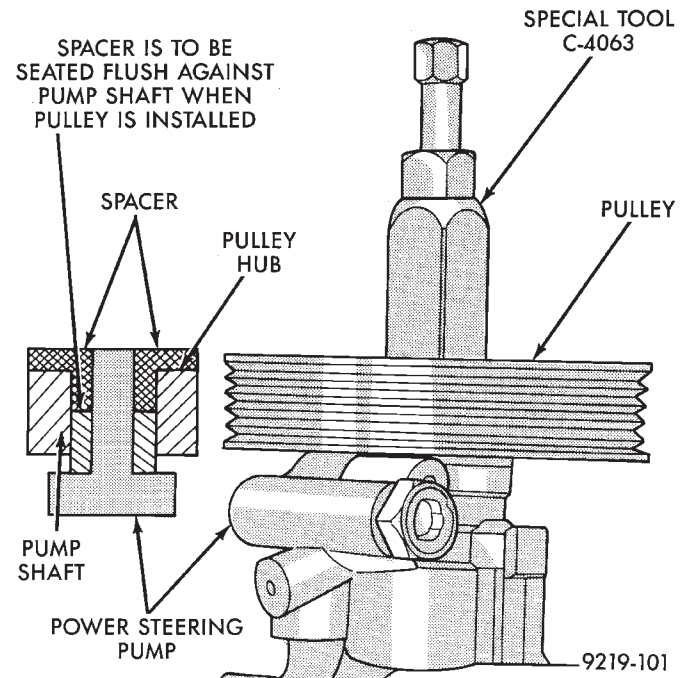

Fig. 40 Power Steering Pump Pulley Installed
(5) Continue to push pulley onto shaft of power steering pump until Pulley Installer, Special Tool C-4063 will no longer turn. This will ensure the spacer provided is fully seated against the front of the power steering pump shaft (Fig. 40).